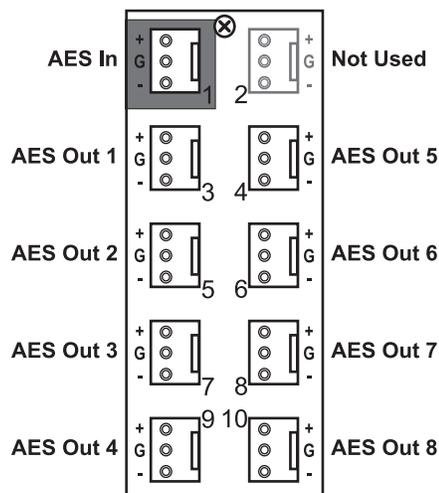

Figure 8 Cabling for the 8310AR-042 and 8320AR-042
In the DFR-8310 series frames, each 8310AR-042 rear module occupies one slot and accommodates one card. This rear module provides one AES input and eight AES outputs. (**Figure 8**)
- 8320AR-042 — Each rear module occupies two slots and accommodates one card. This rear module provides one AES input and eight AES outputs. (**Figure 8**)